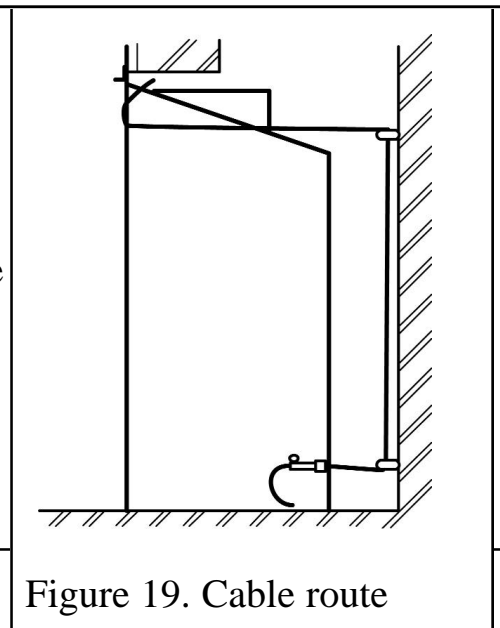

Figure 19. Cable route
6. Thread the cables through the eyebolts. Return the cables through the holes near the bottom of the hotbox back panel (See figure 19). **(For precast or clay block flue systems return the cables through the slotted holes in the side of the hotbox).**